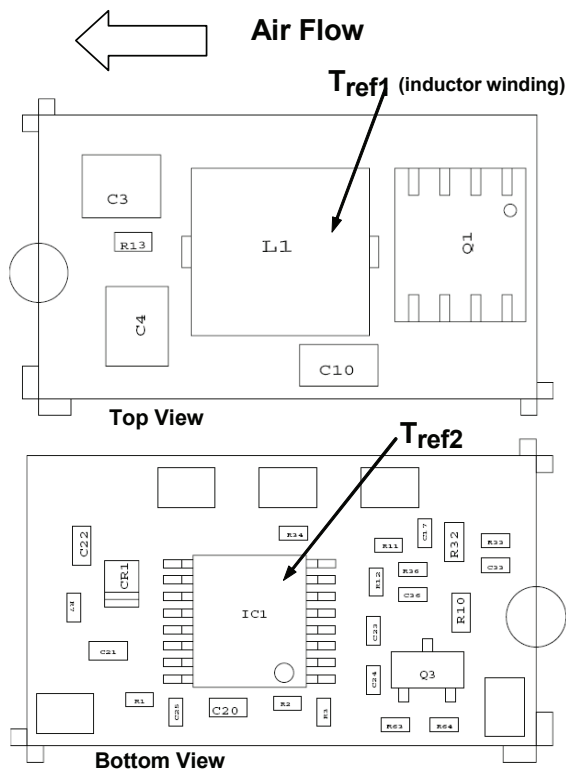
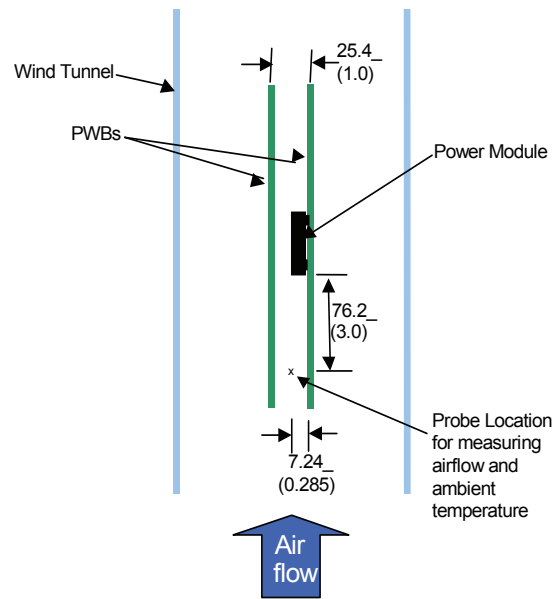

Figure 31. T_{ref} Temperature measurement location.
Figure 32. Thermal Test Set-up.
To provide over temperature protection in a fault condition, the unit relies upon the thermal protection feature of the controller IC. The unit will shutdown if the thermal reference point T_{ref2} , (see Figure 31) exceeds $140^{\circ}C$ (typical), but the thermal shutdown is not intended as a guarantee that the unit will survive temperatures beyond its rating. The module will automatically restarts after it cools down.
Considerations include ambient temperature, airflow, module power dissipation, and the need for increased reliability. A reduction in the operating temperature of the module will result in an increase in reliability. The thermal data presented here is based on physical measurements taken in a wind tunnel. The test set-up is shown in Figure 32. Note that the airflow is parallel to the long axis of the module as shown in figure 31. The derating data applies to airflow in either direction of the module's long axis.
The thermal reference points, T_{ref1} and T_{ref2} used in the specifications of thermal derating curves are shown in Figure 31. For reliable operation these temperatures should not exceed 125°C.